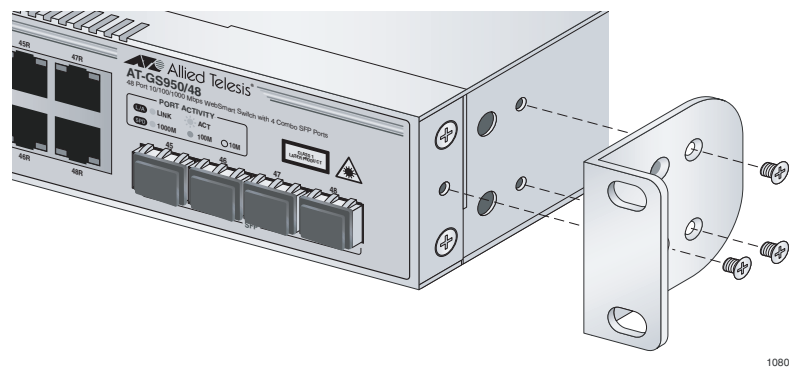

Figure 7. Attaching the Rack-Mount Bracket
2. Install a bracket on one side of the switch using a Phillips screwdriver and four of the rack-mount screws included with the switch, as shown in Figure 7